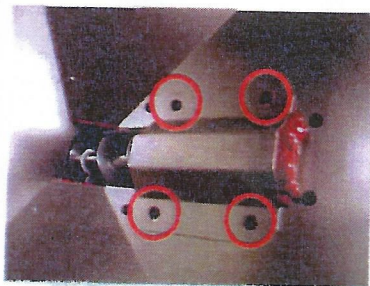

Fig. 1
- 1 Empty hopper and remove the 4 screws and cover plate Fig. 1